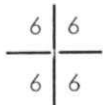

Fig. 47
### No. 25. RAISED BLOCK PATTERN (XI), fig. 47